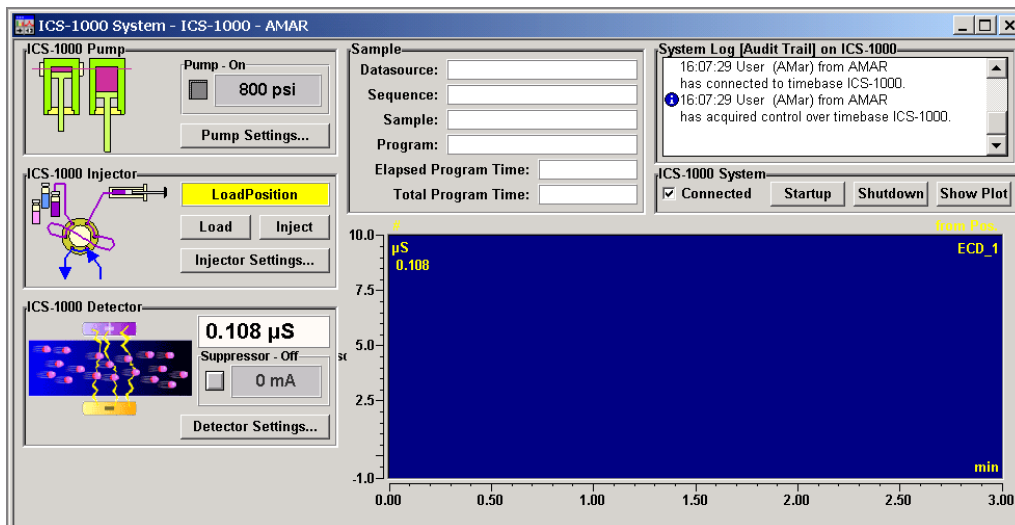

Figure B-33. ICS-1000 System Control Panel Example
19. Double-click the .pan file to open the Control panel for your system (see the example in Figure B-33).